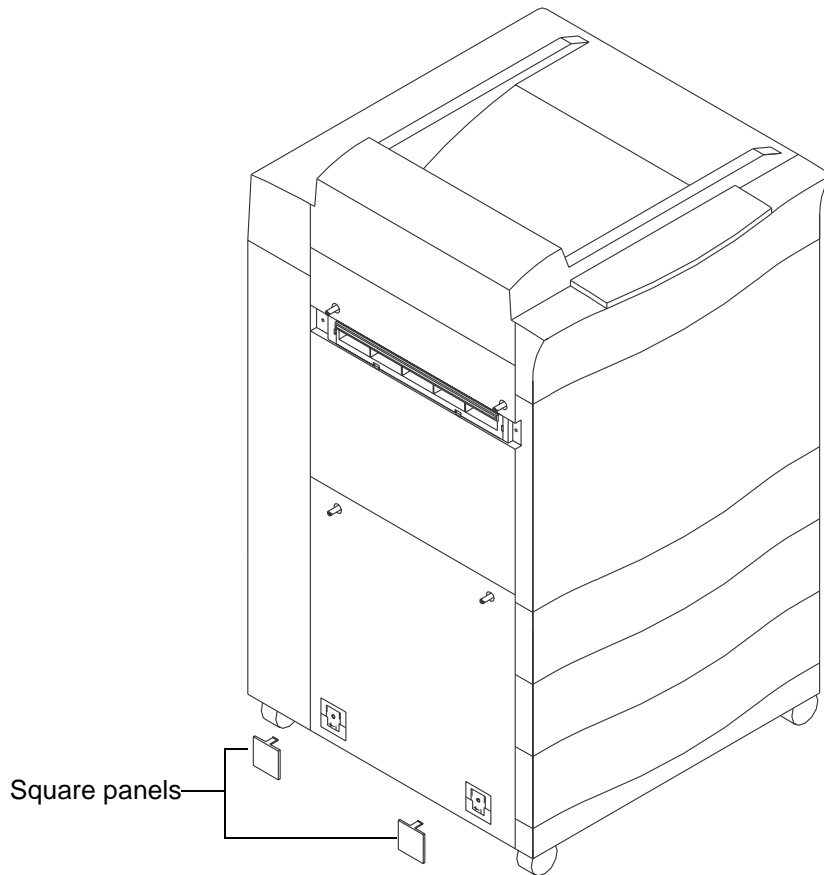

Figure 17 Removing square panels
Step 9 Use a small, flat-bladed screwdriver to pop out the two small, square panels from the lower cover of the printer. See Figure 17.